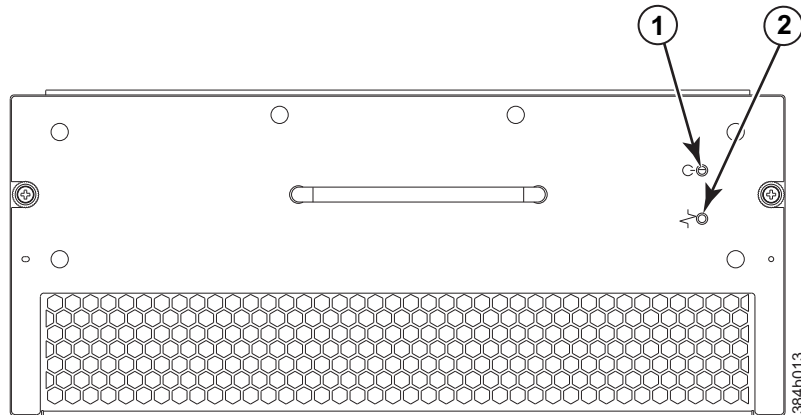

Figure 25. Blower assembly LEDs
1. Check the LED indicators on each blower assembly (see Figure 25 on page 59). The LED patterns may temporarily change during POST and other diagnostic tests; for information about how to interpret the LED patterns, see Table 12 on page 59. Be sure to check both blower assemblies.
Figure 25 displays the blower assembly.